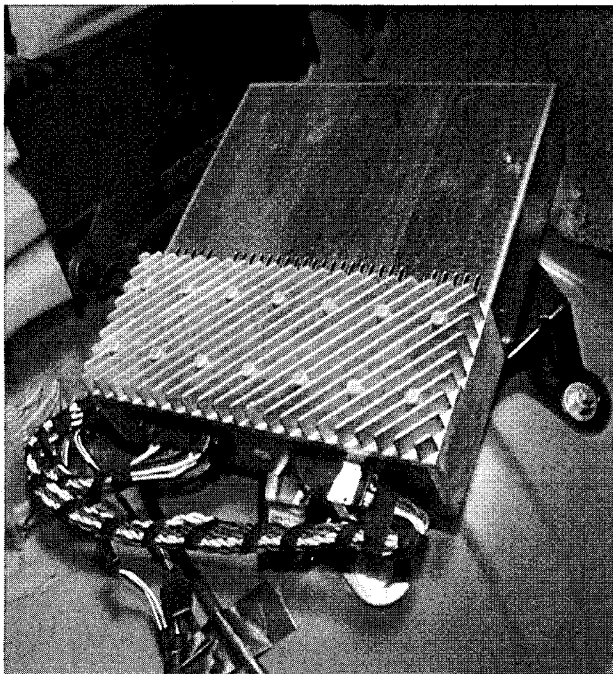

Fig. 1. Radio amplifier (premium package) in luggage compartment behind left panel.
- A 200-watt power amplifier with custom-contoured equalization and ten speaker output. See Fig. 1.